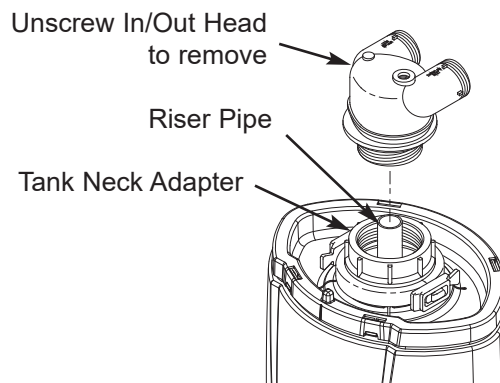

FIG. 10
5. Holding the tank neck adapter with a strap wrench, unscrew the in/out head from the tank neck adapter (See Fig. 10). Once the in/out head is completely unscrewed, check to see whether the riser pipe (See Fig. 10) is still inserted in the in/out head. Remove it by lifting the in/out head enough to grasp the riser pipe and pull it free from the head.
**NOTE:** The riser pipe (See Fig. 10) may have been pulled up from the bottom of the mineral tank. If this has happened, the in/out head may not engage the threads of the neck adapter. To correct this, apply air or water pressure to the riser pipe. This will move the media at the bottom of the tank, allowing the riser pipe to be lowered to the bottom of the mineral tank.